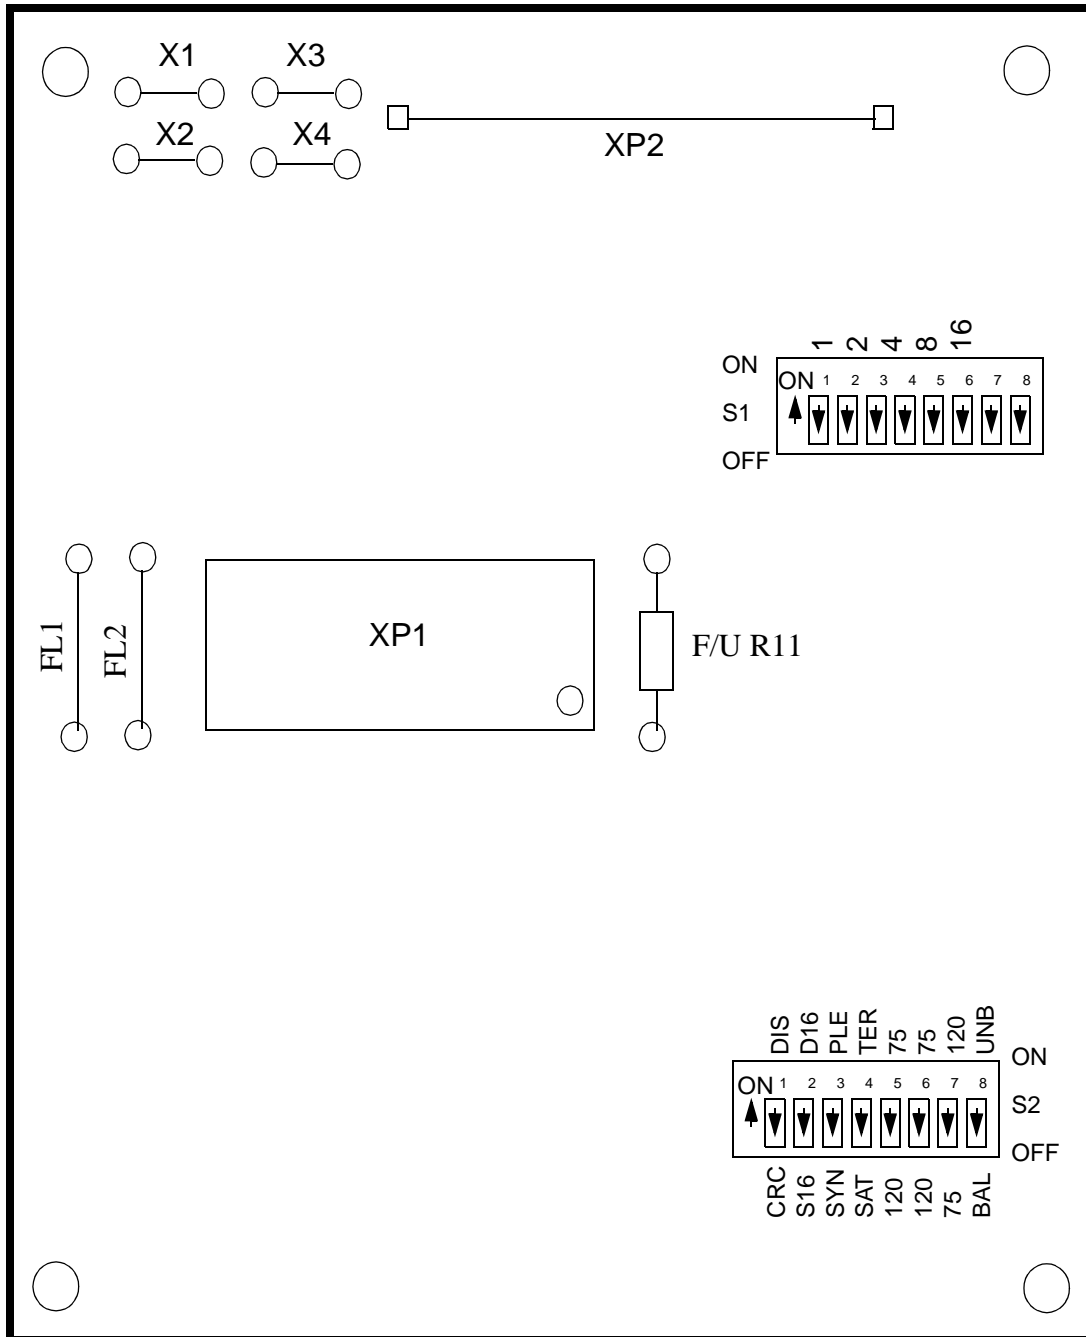

Figure 4-14 G.704 Aggregate Interface Piggyback Card
Using Switches S1 and S2 on the G.704 Aggregate Interface Piggyback Card, CRC4 multiframe, time Slot 16, synchronous/plesiochronous clocking mode and the elastic buffers may be selected in addition to the Transmit/Receive impedance at the aggregate and the line balance. See *Figure 4-14*. *Table 4-15* defines the option selections and describes the application of each. *Table 4-16* shows the buffer size/delay time of the plesiochronous buffers.
- Receive End — The grounding of signal RCVDATB is achieved by moving DIP Switch S2-8 on the G.704 Aggregate Interface Piggyback card to the UNB or closed (ON) position. This connects RCVDATB to Signal Ground.
- Transmit End — The grounding of signal XMTDATB is achieved by soldering a zero ohm resistor (or a simple wire link) to future use resistor R11 (F/U R11) located on the right hand side of connector XP1 (*Figure 4-14*). This connects XMTDATB to Signal Ground.